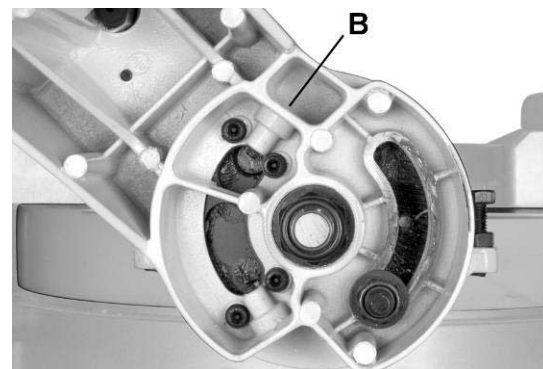

Figure 15
- Repeat steps for the right bevel 33.9° bevel adjustment, making adjustments to *setscrew* B, Fig. 15.